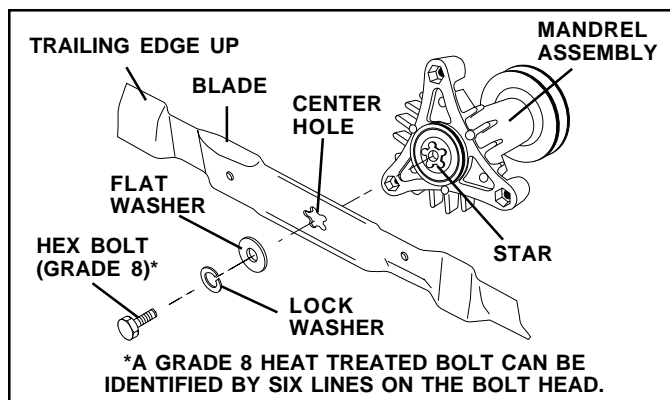

FIG. 6
**IMPORTANT:** FOR SHIPPING PURPOSES, THE MULCHER PLATE WAS PREATTACHED TO YOUR MOWER. THE MULCHER PLATE MUST ONLY BE USED WITH THE MULCHING BLADES THAT CAME PACKED SEPARATELY IN THE CARTON. YOUR MOWER CAME FACTORY EQUIPPED WITH HIGH PERFORMANCE BLADES, WHICH ARE THE BEST BLADES FOR BAGGING AND DISCHARGING. TO USE YOUR MOWER WITH THE HIGH PERFORMANCE BLADES THE MULCHER PLATE MUST BE REMOVED FROM THE MOWER (SEE FIG. 6).
## TO SET UP YOUR MOWER FOR MULCHING (See Fig. 6)